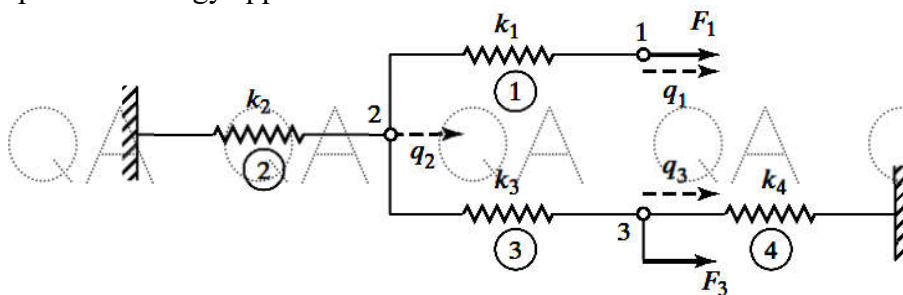

Figure 1
- b) Derive the equilibrium equations for a system of springs shown in figure 1. Using potential energy approach. [5+5]